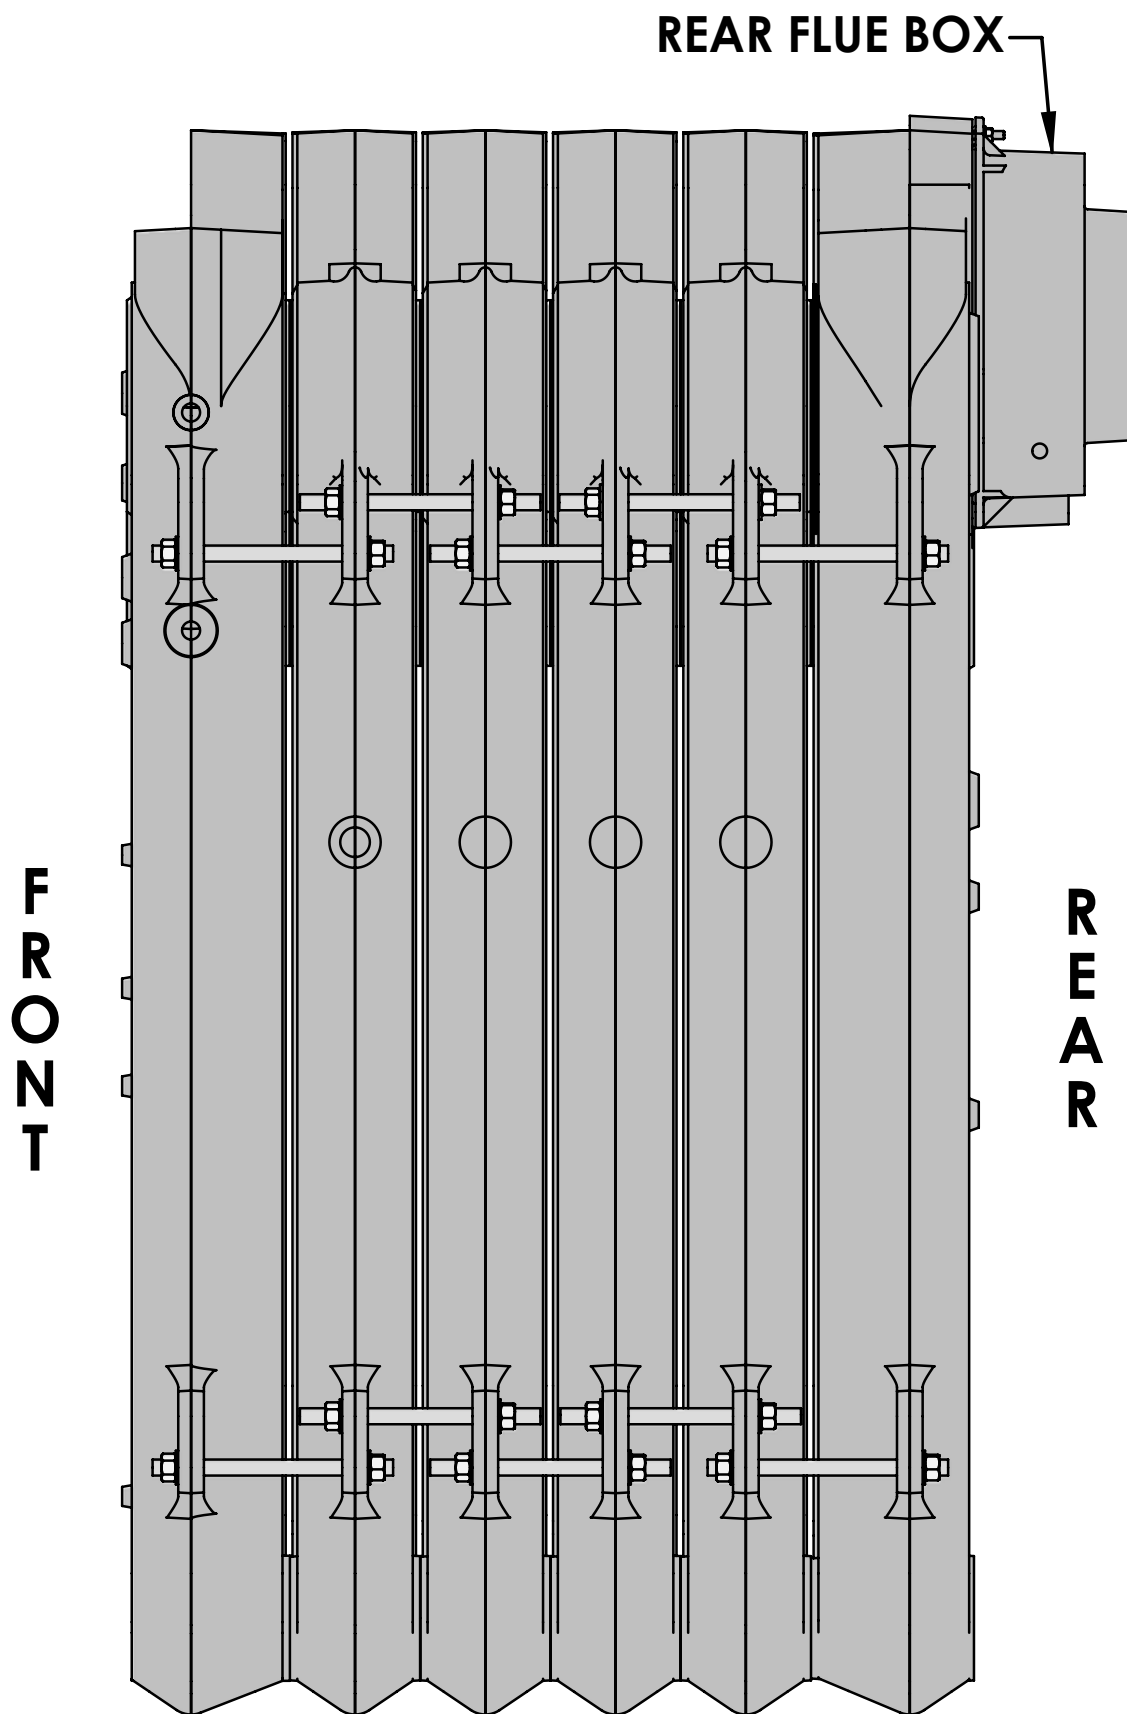

Figure 2.5: Series LC™ Boiler Assembly – Right Side View
14. Insert a tie rod with one nut and washer applied into each of the four tie rod lugs. See Figure 2.5.